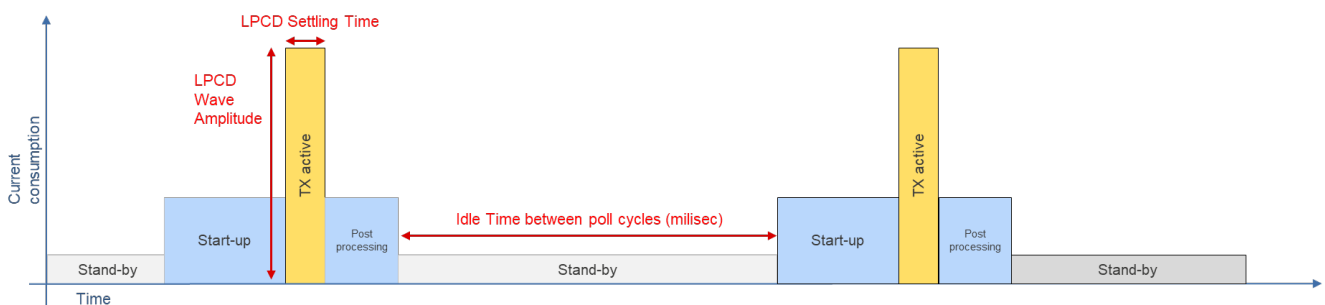

Figure 6. LPCD Parameters – Wave Amplitude, Detection Threshold and Settling Time
- Figure 6. LPCD Parameters – Wave Amplitude, Detection Threshold and Settling Time6